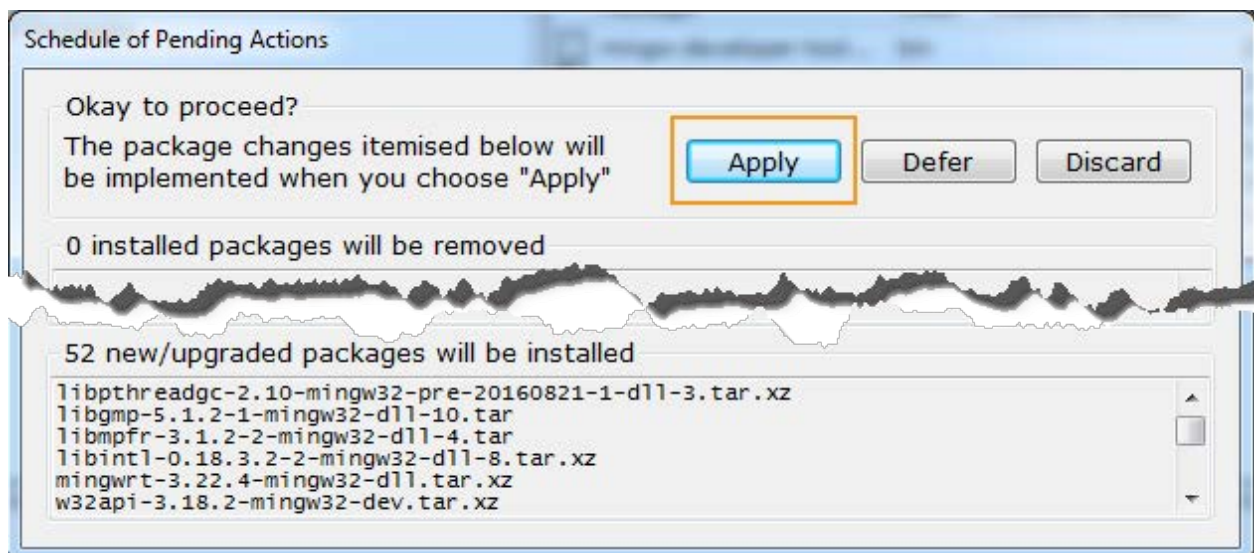

Figure 6. Schedule of pending actions
- Click **Apply** on the pop-up dialog window (see Figure 6).